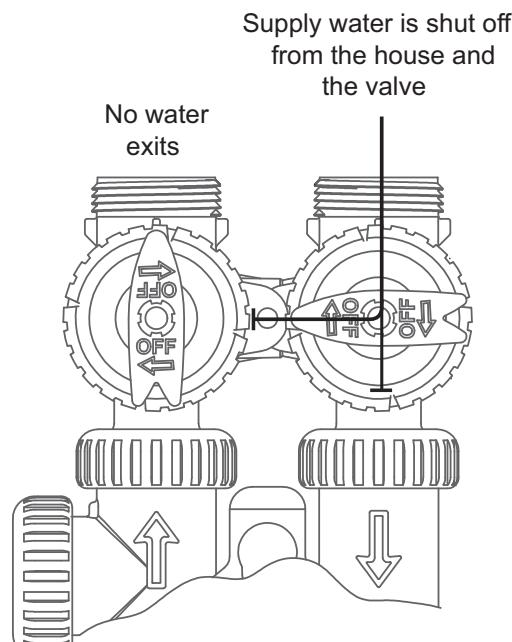

Figure 4 Shut Off Position
d. Shut Off Position: The inlet handle points to the center of the bypass valve and the outlet handle points away from the control valve. The water is shut off to the building. The water treatment system will depressurize upon opening a tap in the building. A negative pressure in the building combined with the softener being in regeneration could cause a siphoning of brine into the building. If water is available on the outlet side of the softener or filter it is an indication of water bypassing the system. Refer to Figure 4. (i.e. a plumbing cross-connection somewhere in the building)